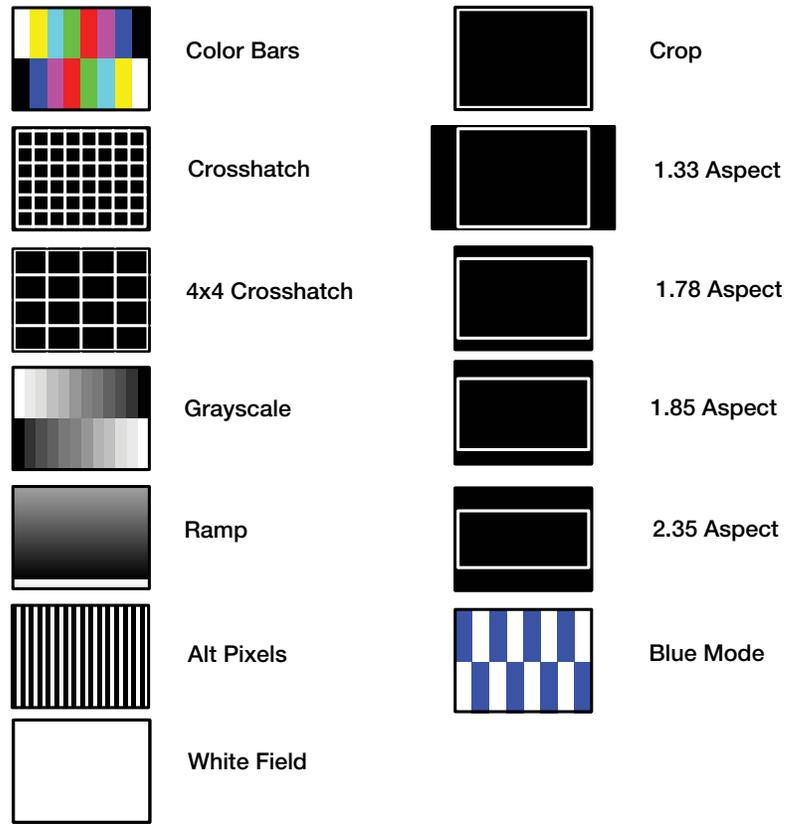

Figure 44. Test Patterns on the DVS 510
- **Test Pattern:** Select a test pattern to assist you in adjusting the display device for color, convergence, focus, resolution, contrast, grayscale, and aspect ratio. Figure 44 on the next page shows the test patterns that are available.